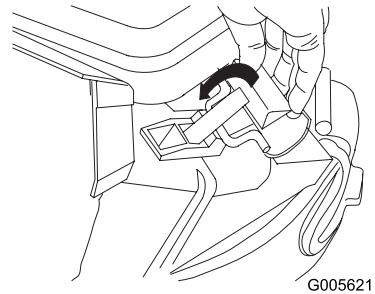

Figure 25
- Pull the handle rearward until the latch locks into the notch in the bag door latch (Figure 25).